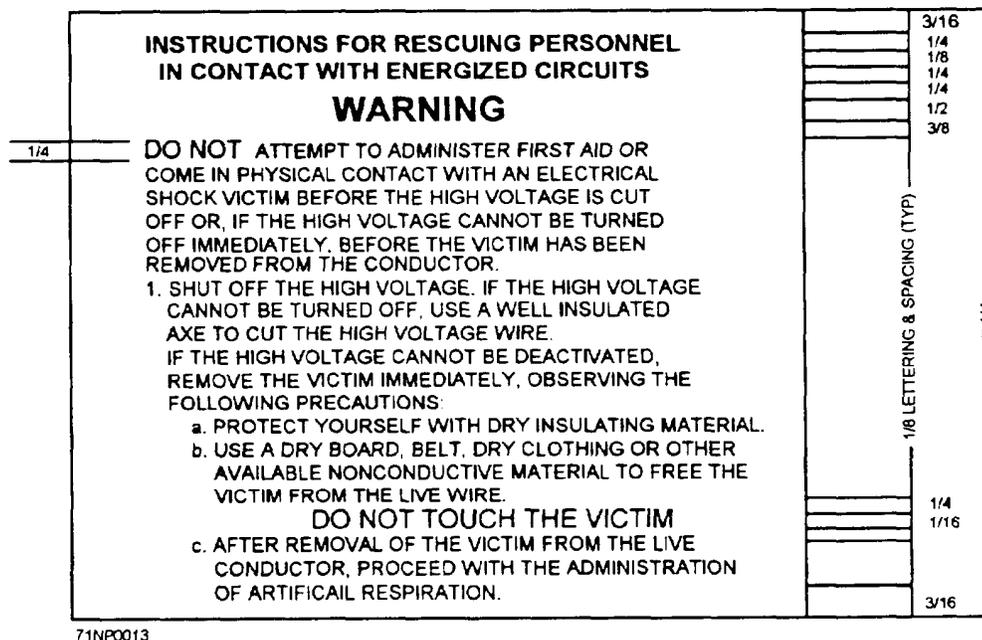

Figure 1-7.—Instructions for rescuing personnel in contact with energized circuits.
- A sign showing an approved method to rescue personnel (fig. 1-7) in contact with energized circuits. This sign is locally produced.